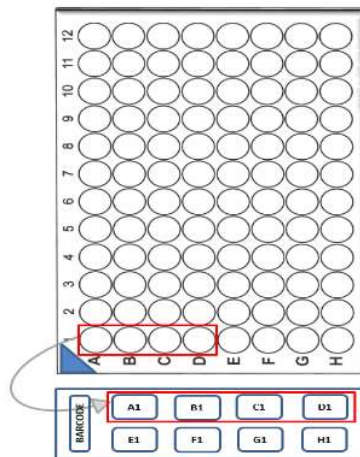

Figure 1
- From the Hyb plate, load **40 µL (Critical Volume)** of each sample onto a gasket slide in the order shown in **Figure 1**